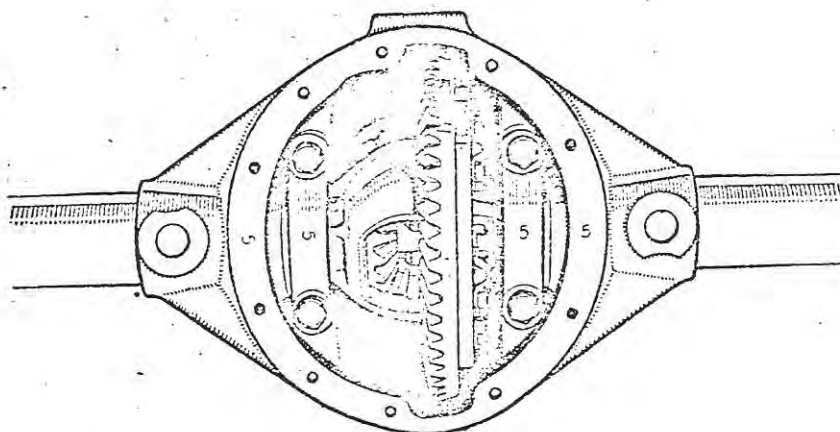

FIGURE 10
- (8) Lower the differential assembly into position, lightly tapping the bearings home with a hide hammer, whilst ensuring that the gear teeth are led into mesh with those of the pinion. Careless handling at this stage may result in bruising the gear teeth, and removal of the consequent damage can only be partially successful and result in inferior performance.
- (9) When refitting the bearing caps, be sure that the position of the numerals marked on the gear carrier housing face and the caps correspond, as indicated in Figure 10. Tighten the caps lightly, remove the stretching fixture, then finally tighten the bolts securing the bearing caps. Then continue with operation (10).
- (8a) Install the differential bearing caps as indicated in operation (9) above and shown in Figure 10. Finally tighten the bolts securing the bearing caps.